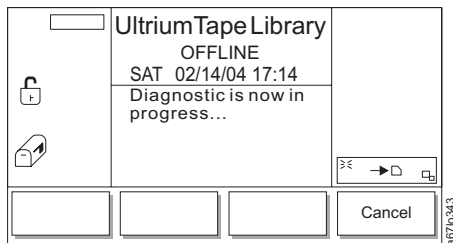

Figure 14-8. Diagnostic In Progress Screen
11. When the diagnostic begins, the Diagnostic In Progress Screen displays (see Figure 14-8).